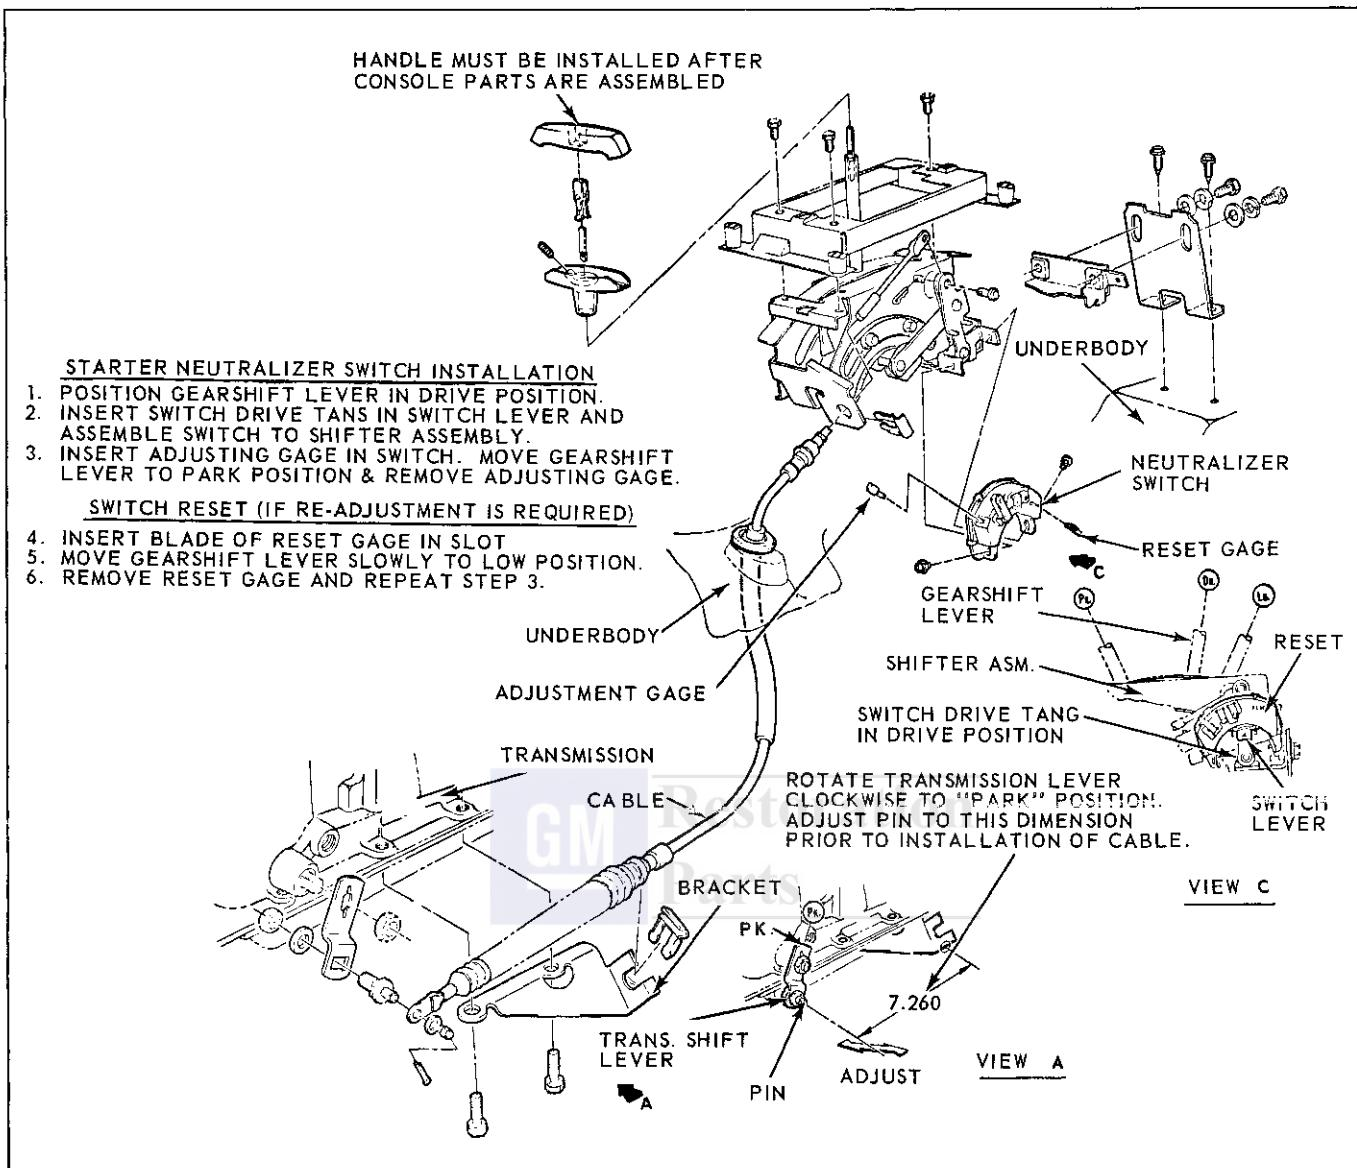

Fig. 7F-3 Tempest Floor Shift Linkage
2. Pry out old seal (Fig. 7F-7).
3. Coat outer casing of new oil seal with gasket sealing compound and drive it into place with installer J 5154 (Fig. 7F-8).
4. If necessary, replace speedometer drive gear. Remove by depressing clip (Fig. 7F-27). Install new gear.